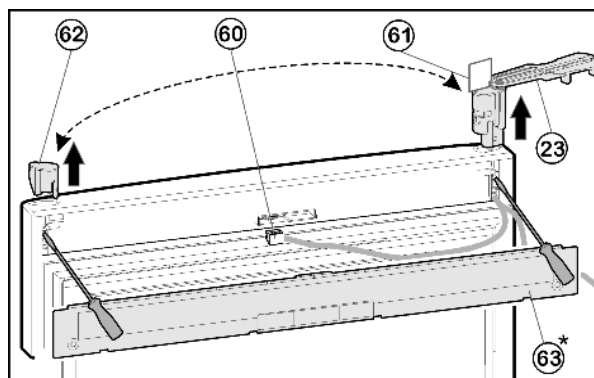

Fig. 11
- ▶ Using a screwdriver, disengage the cover *Fig. 11 (63)* from the door.
- ▶ Detach the connector *Fig. 11 (60)*.
- ▶ On the upper door, rotate the turn hinge *Fig. 11 (23)* outwards, parallel to the edge of the door.
- ▶ Using a screwdriver, push out the turn hinge *Fig. 11 (23)* from underneath and remove it from the door, complete with cable.
- ▶ Using a screwdriver, push out the stopper *Fig. 11 (62)* from underneath and transfer it to the opposite side.
- ▶ Thread in the cable of the turn hinge *Fig. 11 (23)* on the opposite side and insert the turn hinge.
- ▶ Detach the template *Fig. 11 (61)* and secure it in the turn hinge.
- ▶ Plug in the connector *Fig. 11 (60)*.
- ▶ Snap the cover *Fig. 11 (63)* into place on the door.